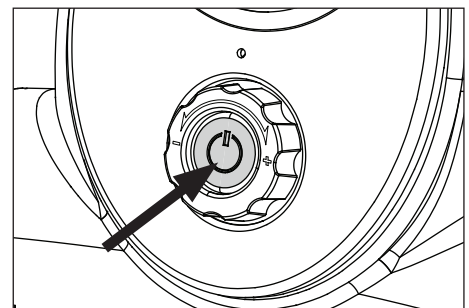

Figure 4 - Power Button
5. Press power button. (See Figure 4).
5. Press power button. (See Figure 4). Unit will turn off automatically when set pressure is reached.